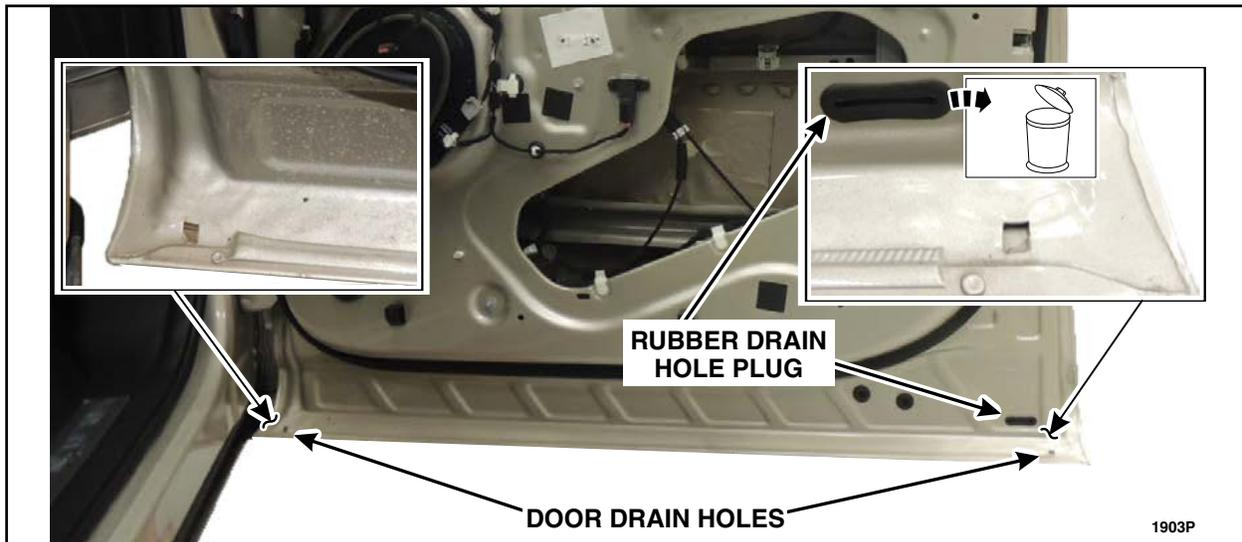

FIGURE 6
7. Remove and discard the rubber drain plug and clean any obstructions, debris, foreign material and residual water from all of the door drain holes using compressed air and a tool such as a plastic trim tool or a zip tie. See Figure 6.